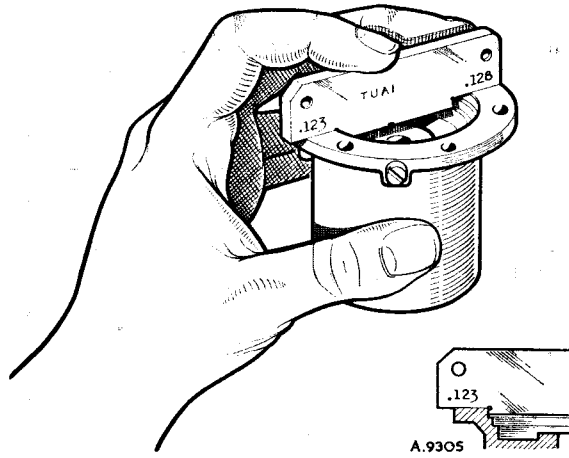

Fig. 3. Checking the depth of coil housing step using gauge TUA 1
2. Check the depth of step in the housing (Fig. 3) using depth gauge TUA 1.